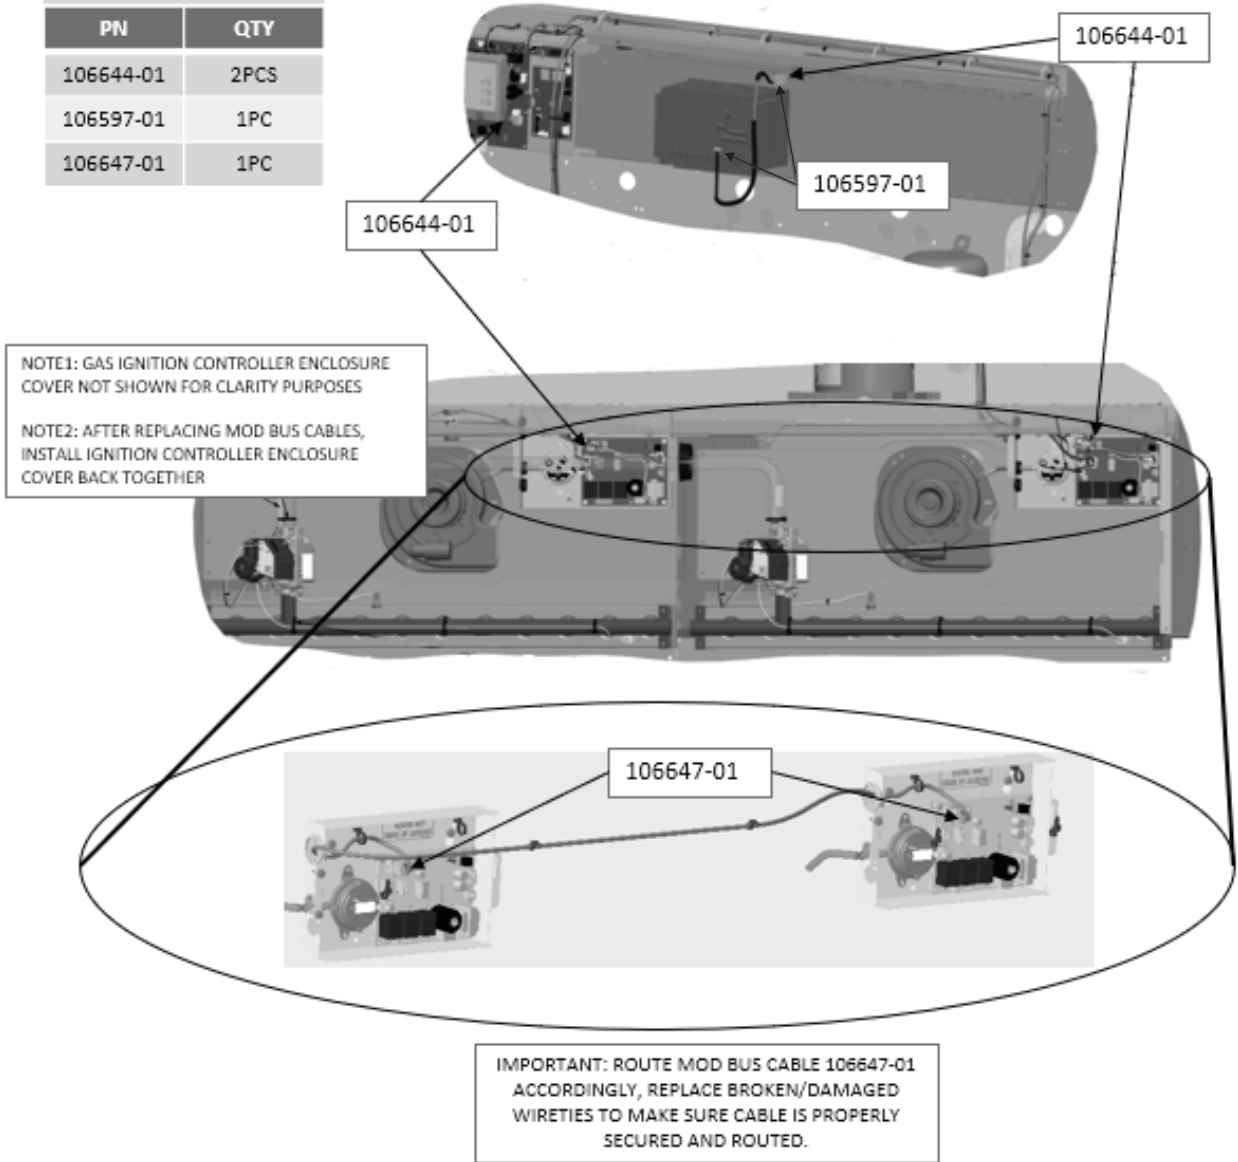
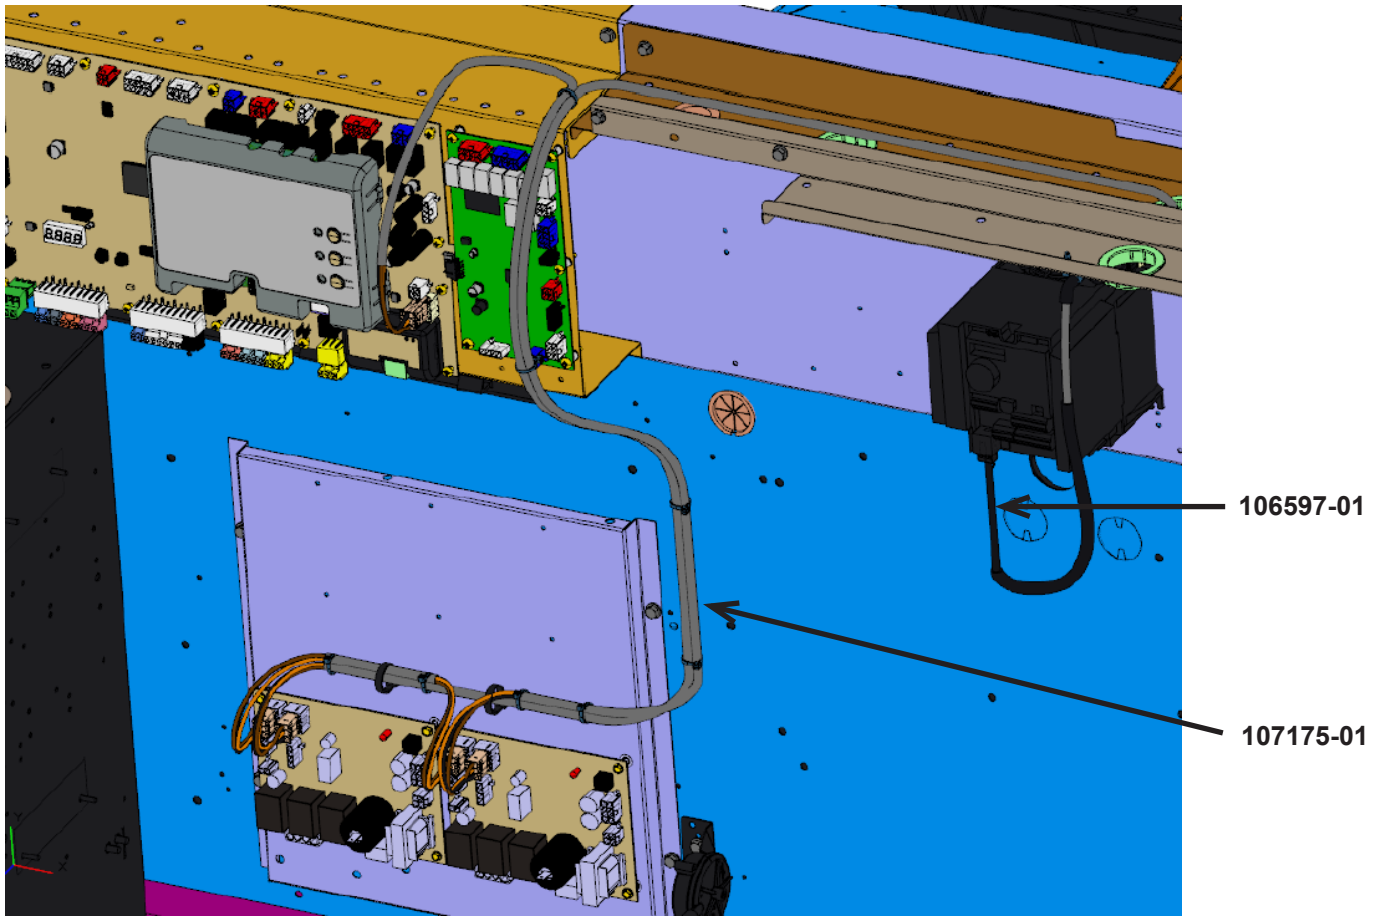

Figure 1. LGM Models
Figure 3. LGT/LDT Models
4. Remove old set of MODBUS cables from unit. Install and route new set of cables in the unit (see "Figure 1. LGM Models" on page 2, "Figure 2. LCM/LCT/LHT Models" on page 3, and "Figure 3. LGT/LDT Models" on page 4).